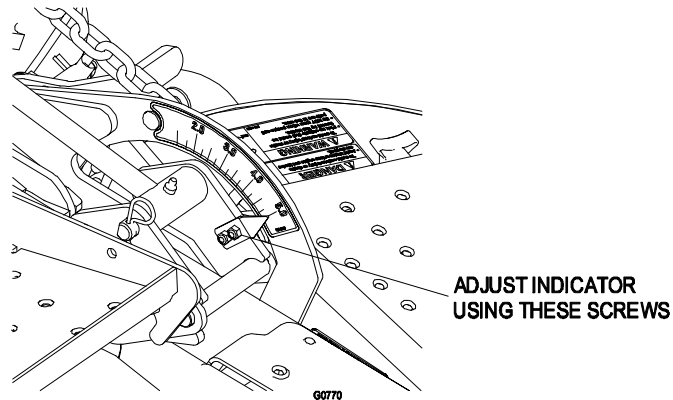

FIGURE 13
- d) Fully extend the cylinder to raise the deck as high as it will go (this is also the transport position). Note the position of the cut height indicator. Adjust the indicator if necessary so that the indicator is pointing to the 5" cut height mark. See Figure 13.